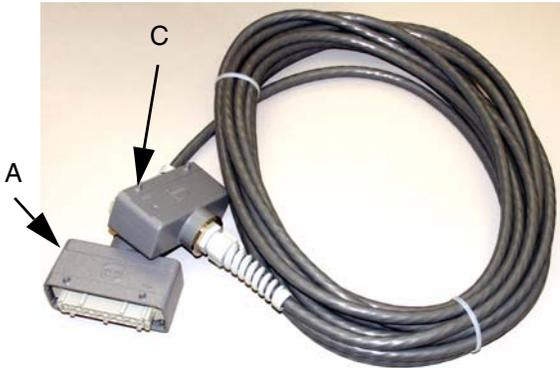
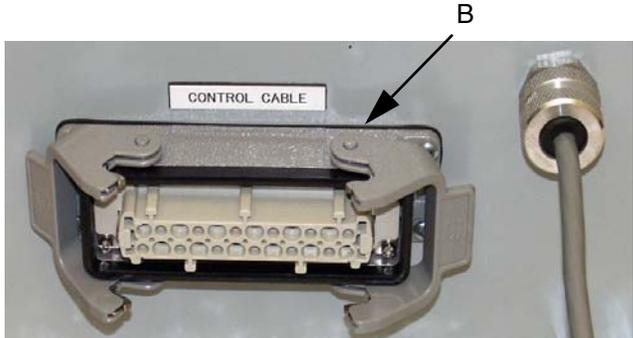

FIG. 10
FIG. 11
- 5. Connect plug (A) of the pump control cable (234956) to plug (B) on the side of the pump control box (202). See FIG. 10 and FIG. 11.
- 6. Connect plug (C) of the pump control cable (234956) to the pump function module box. See FIG. 10.